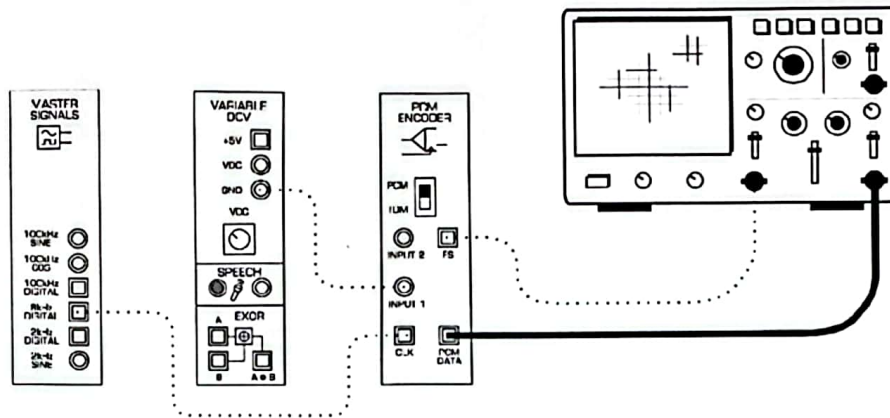

Figure 5
12. Connect the scope's Channel 2 input to the PCM Encoder module's output as shown in Figure 5 below.